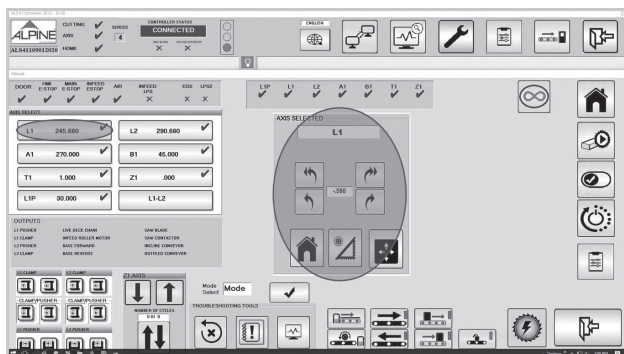

Figure 113
The screen in Figure 113 will appear:
Step 5 – Select the “Calibrate L1 & L2 & L1P Lengths” button (circled on Figure 113 and shown in Figure 114).